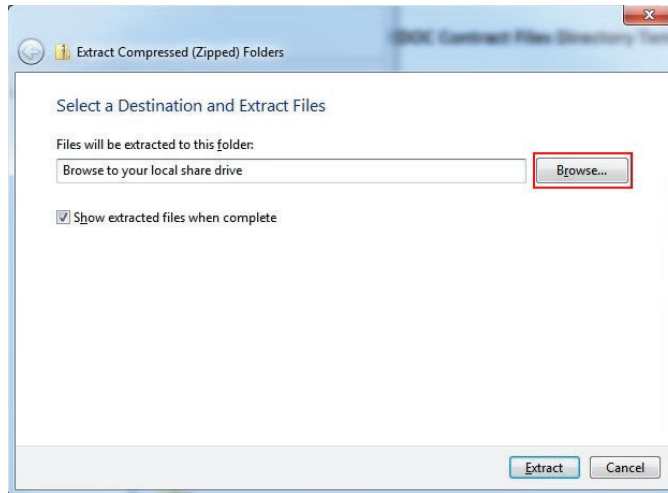

Figure 2-7: Extract Compressed (Zipped) Folders
7. Click **Browse** to select the Destination and Extract Files (Figure 2-7).